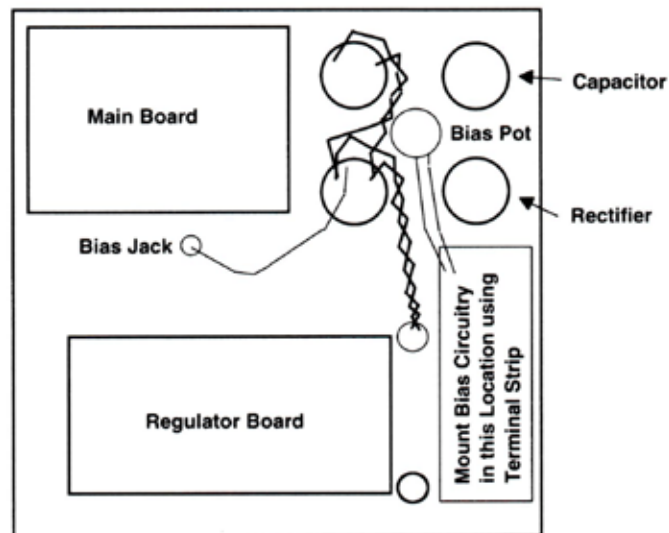

Figure 2. Bottom View of Chassis, Filament Wiring and Bias Circuit
- 2) Install filament leads (white 18ga. Teflon-coated wire) to the output tube sockets. Be sure to twist the filament leads tightly as this will help to reduce stray electrical noise. Route the filament leads as close to the chassis as possible and away from input signal conductors. Refer to figure 2.